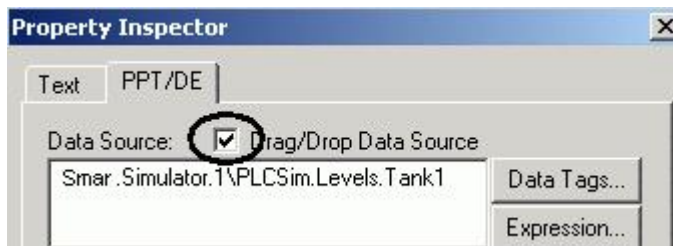

Figure 6.3. Drag Drop Data Source Configuration
1. Double-click on the first process point you created in **Section 6.3**. This opens the **Property Inspector** for the process point. Click on the **PPT/DE** tab, and then check **Drag Drop Data Source** check box, as shown in **Figure 6.3**. Click **OK**.